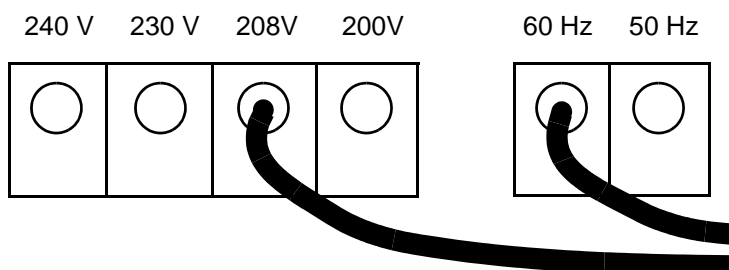

Figure 1: Ballast configuration
3. See Figure 1. Check that the *longer* black wire to the ballast is connected to the screw terminal marked with the local AC power voltage. Release it and connect it to the screw terminal for the correct voltage if necessary. If the exact local voltage is not marked on a terminal, install the wire in the terminal with the next highest voltage (for example, if the local power voltage is 220 V, install the wire in the 230 V terminal).